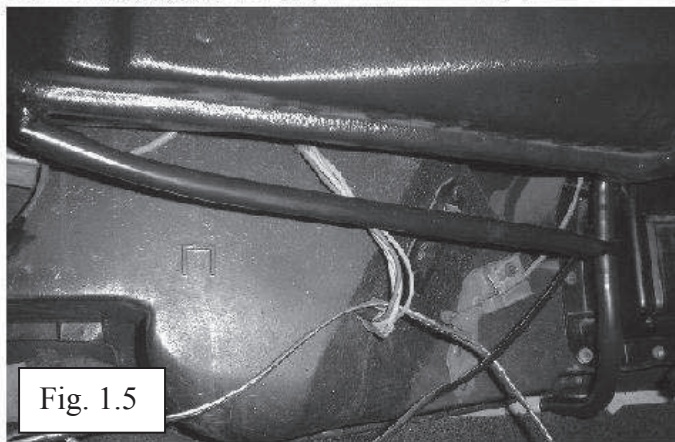

Fig. 1.5
- 10) We recommend keeping the drain out of sight, out of the feet area, and not draining onto the exhaust. Figure 1.5